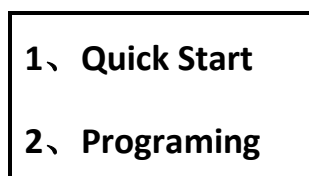

Fig 3: screen
2. Turn on the main power switch on the rear panel. The front panel should be illuminated (Fig 3) .